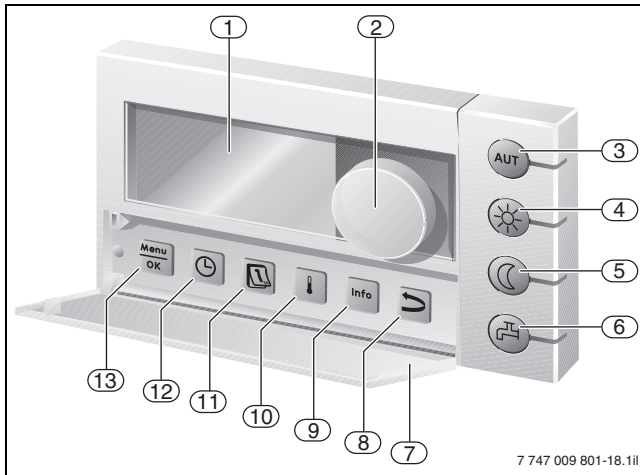

Fig. 27 Displays and controls of the RC35 programming unit
The RC35 programming unit (→ fig. 27) is connected to the Logamatic EMS control system and supplied with power via a 2-core BUS cable. The RC35 programming unit can either be clipped into the Logamatic BC10 base controller on the boiler, or fitted on a wall mounting bracket inside the living space. Installed in the living space, the programming unit RC35 is also suitable as a convenient room temperature controller.
The RC35 programming unit is equipped with a programmable 6-channel digital time switch with eight standard programs for the graphic display of the switching cycles and the outside temperature (with integral "Weather station"). Individual programs can also be created for each heating circuit in conjunction with the Logamatic EMS control system and/or the WM10 and MM10 modules. An individual time channel is available for DHW heating incl. control of a DHW circulation pump. The standard functions also include thermal disinfection, which can be adjusted as required, and once only DHW heating. All important information regarding the heating system, including fault messages, room temperature, time and days of the week can be captured with the RC35 programming unit and displayed "in plain text" on the backlit LCD with graphic capabilities (→ Fig. 27, pos. 1).
Selector keys (→ fig. 27, pos. 3 to pos. 5) enable the selection of the heating modes "Automatic, Constant heating" and "Constant setback". The integral LED signals the current operating mode.